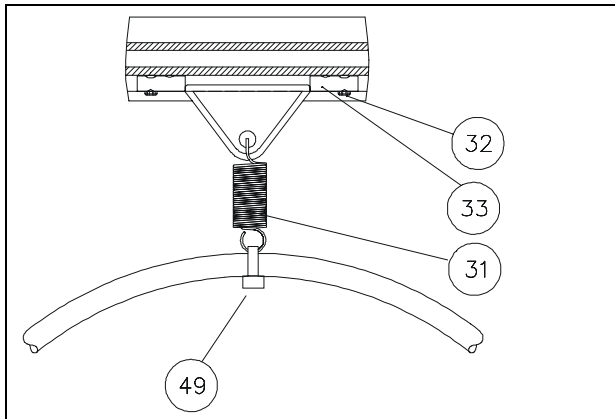

Figure 16: Welding Cable Hanger
26. See Figure 16. The triangular hanger for the welding cable is already in the T-slot of the welding booth's upper crossbeam. Using two fastener sets (33), securely position the hanger in the middle of the crossbeam..